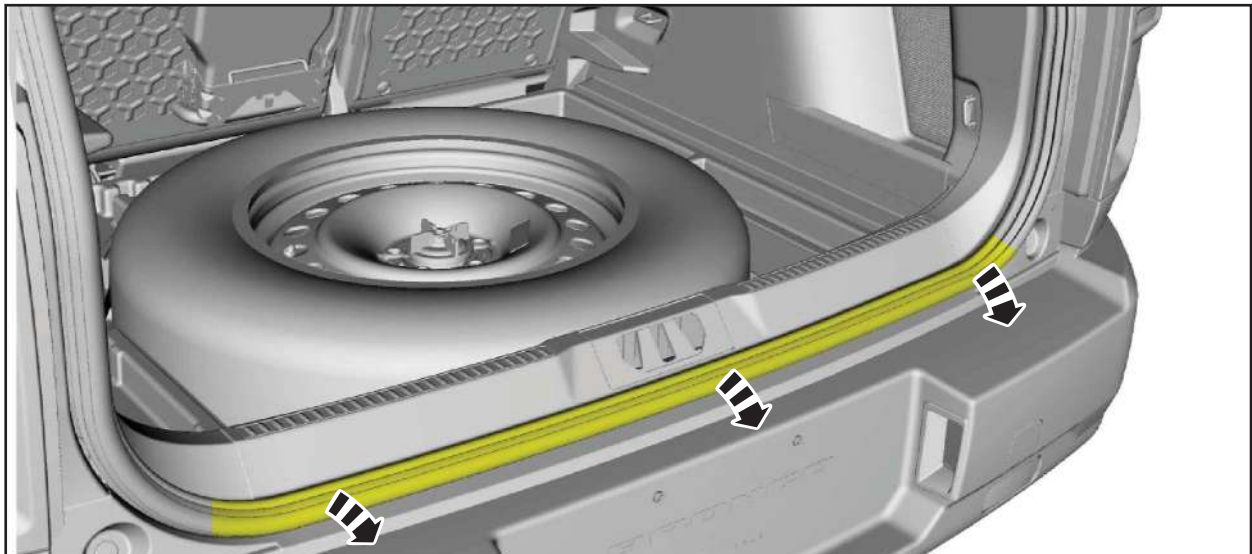

FIGURE 18
18. Position the liftgate weatherstrip aside. See Figure 18.